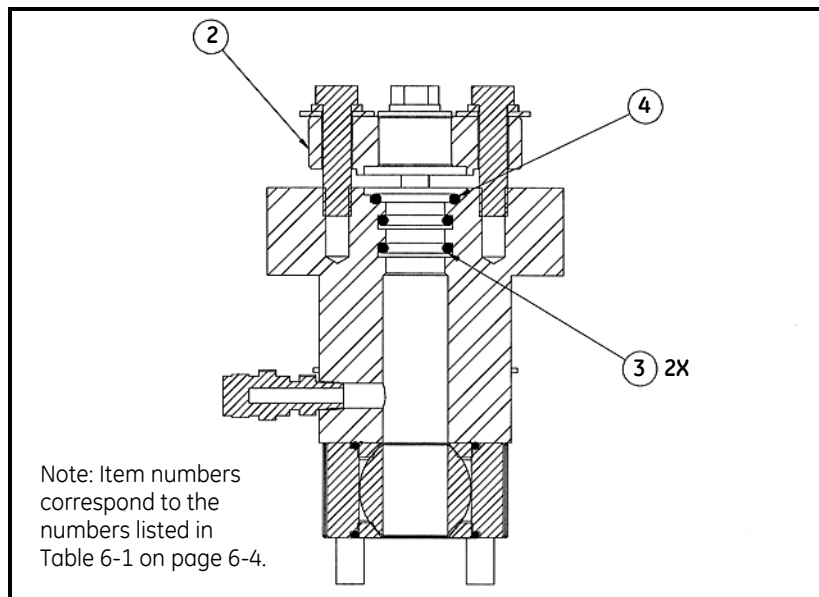

Figure 6-3: Holder Cross-Section - O-Ring Placement
1. Grease and install three new o-rings within the T11 holder (see Figure 6-3 below and Table 6-1 on page 6-4).